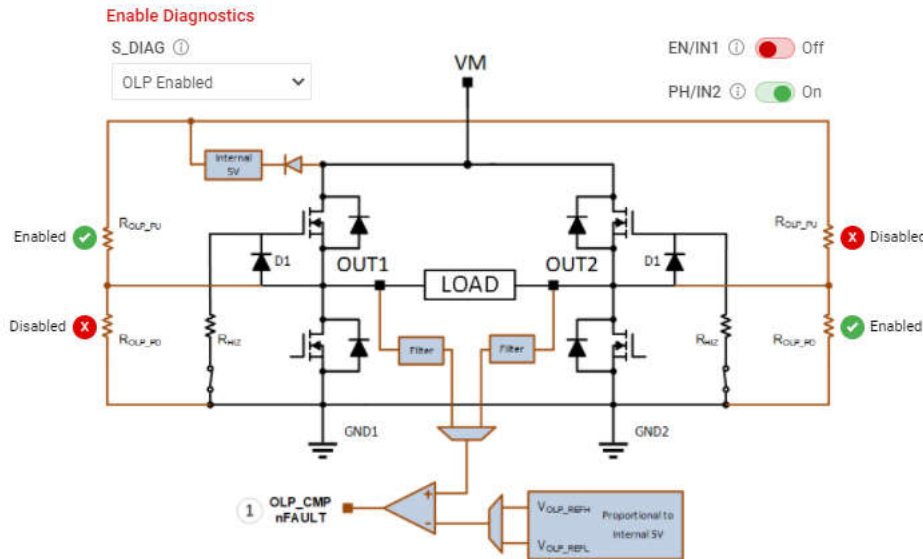

Figure 4-8. Passive Diagnostics Pop-Up Window
- **PASSIVE/ACTIVE DIAGNOSTICS** The SPI variant features both passive and active diagnostics. The passive diagnostics also known as Off-line Passive (OLP), can only be used when **ENABLE DRIVER** is disabled (Off-state). OLP shows up in a separate pop-up window as can be seen in Figure 4-8. A representative table from the device data sheet is displayed in this window for guidance to perform the passive diagnostics. Each row of the table covers a specific combination of user input selection, the corresponding OLP setup and load status inference from the OLP\_CMP comparator output on the nFAULT pin. See the device data sheet for more details. The required S\_DIAG selection can be made using the GUI for SPI devices. The required DIAG jumper setting must be done when **WAKE** is Asleep for HW devices prior to enabling passive diagnostics. The nSLEEP and DRVOFF inputs are logic 1 while observing passive diagnostics. Inputs for EN/IN1 and PH/IN2 are selected using the switches in the GUI. The pull up can take a few seconds, pull down resistors,